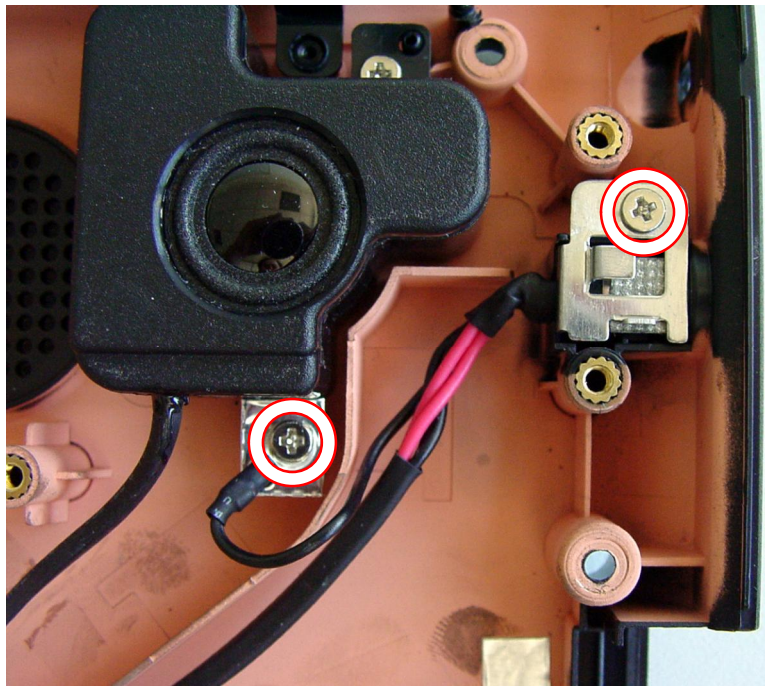

Fig. 34 Location of power connector screws.
3. Remove the screw securing the power connector to the casing (see Fig. 34).